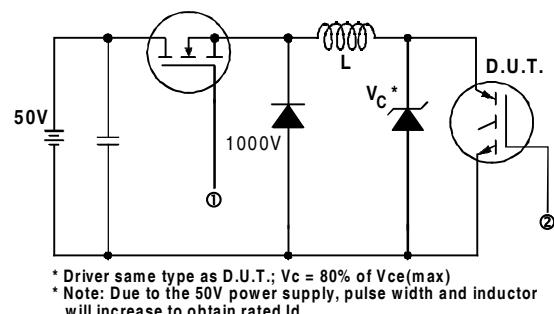

Fig. 13a - Clamped Inductive Load Test Circuit
- ② $V_{\text{CC}} = 80\%(V_{\text{CES}})$, $V_{\text{GE}} = 20\text{V}$, $L = 10\mu\text{H}$, $R_G = 10\Omega$, (See fig. 13a)
- ③ Repetitive rating; pulse width limited by maximum junction temperature.
- ④ Pulse width $\leq 80\mu\text{s}$; duty factor $\leq 0.1\%$.
- ⑤ Pulse width $5.0\mu\text{s}$, single shot.